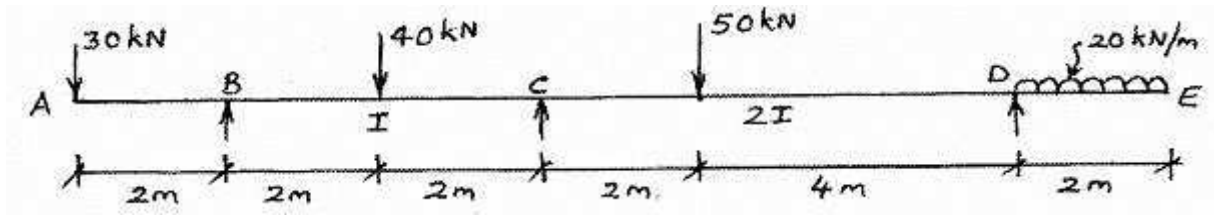

Figure 3:
4. Analyse the continuous beam shown in Figure 3 by Clapeyron's theorem of three moments, if support B sinks by 8mm. Also sketch the BMD, SFD and elastic curve. Take $E = 200 \text{ kN/mm}^2$ and $I = 0.8 \times 10^8 \text{ mm}^4$. [16]